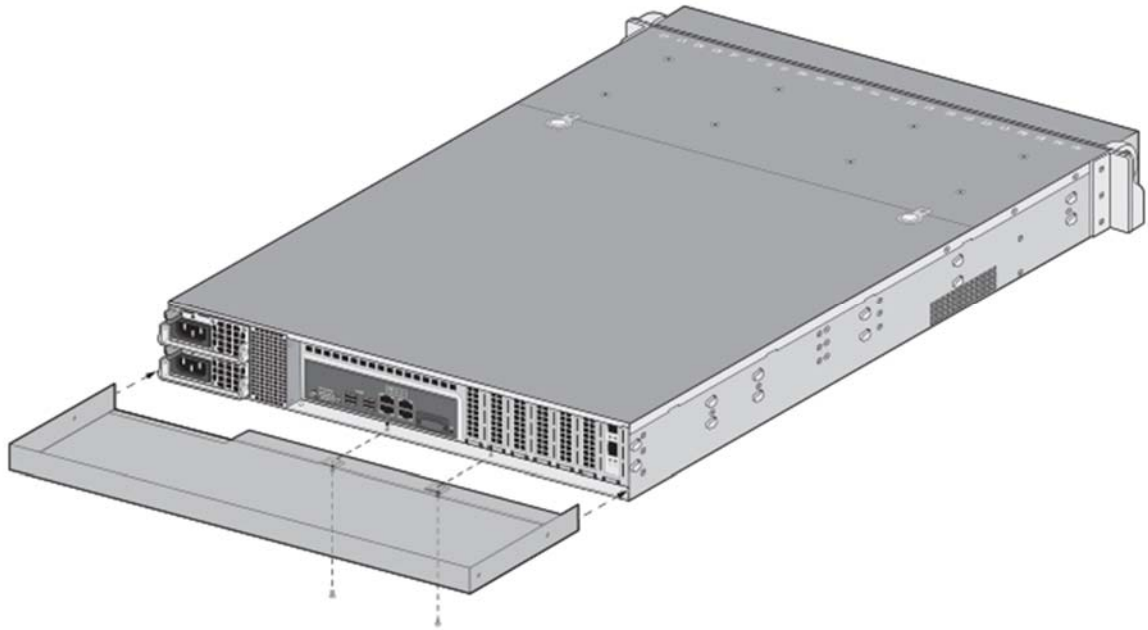

Figure 43 – M-500: Install Rear Opacity Shield Tray
Attach the rear opacity shield tray to the appliance. First, remove the two (2) screws (shown in Figure 43) from the appliance and use these screws to secure the rear opacity shield tray.